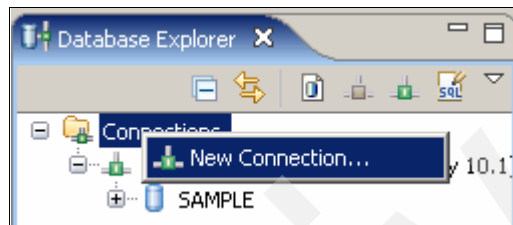

Figure A-1 Add a new connection
2. In the Database Explorer, right-click **Connections**, and select **New Connection** as shown in Figure A-1. (You could also simply click the New Connection icon (  ).